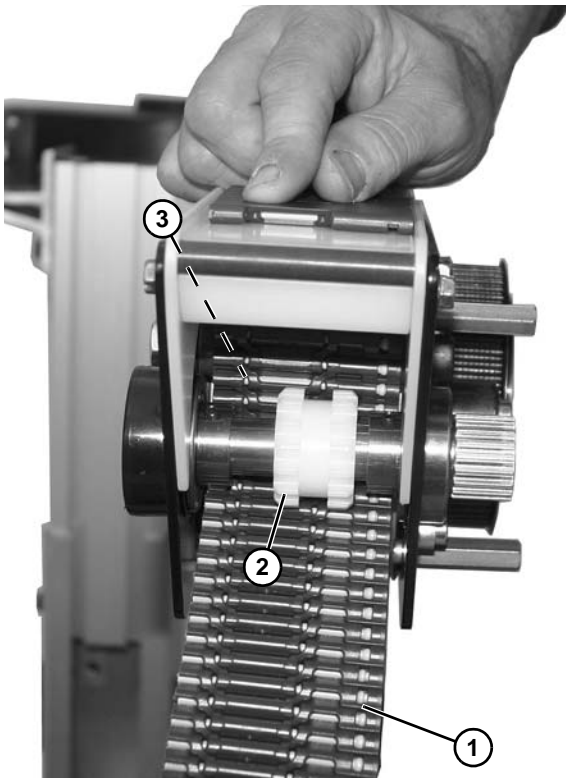

Figure 174
6. Guide belt (**Figure 174, item 1**) through idler assembly with belt routing under gear (**Figure 174, item 2**) and over wear tube (**Figure 174, item 3**).